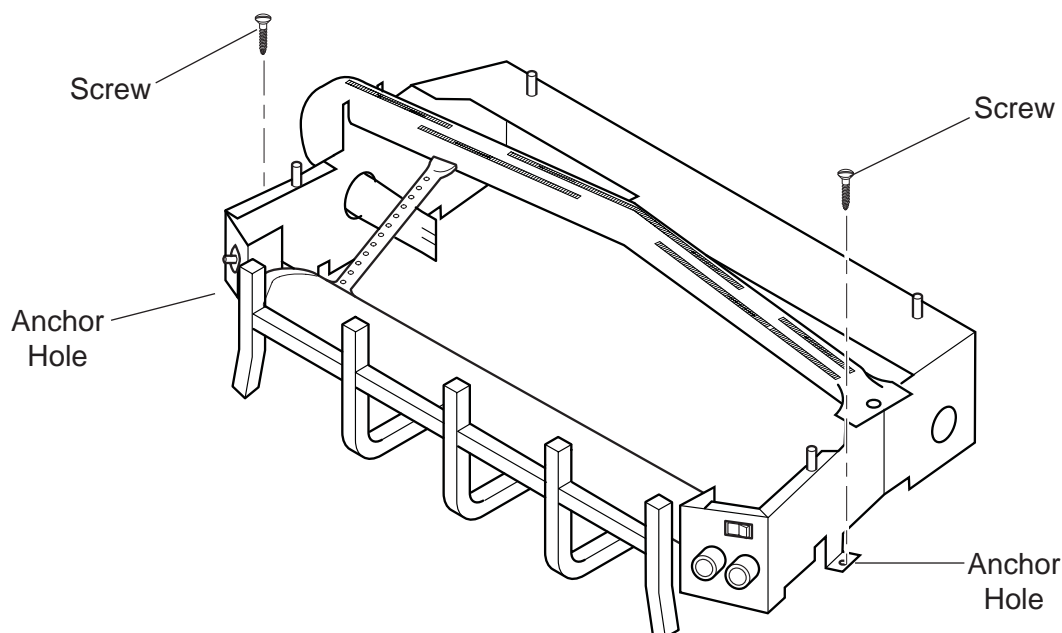

Figure 14 - Securing Heater to Floor of Fireplace/Firebox
2. Anchor holes are located on the right and left sides of the unit. After centering the grate correctly, mark the hole positions on the fireplace/firebox floor. Drill two (2) $\frac{5}{32}$ " diameter holes approximately $1\frac{1}{2}$ " deep.
3. Anchor the grate to the fireplace/firebox floor using the screws provided. *See Figure 14.*